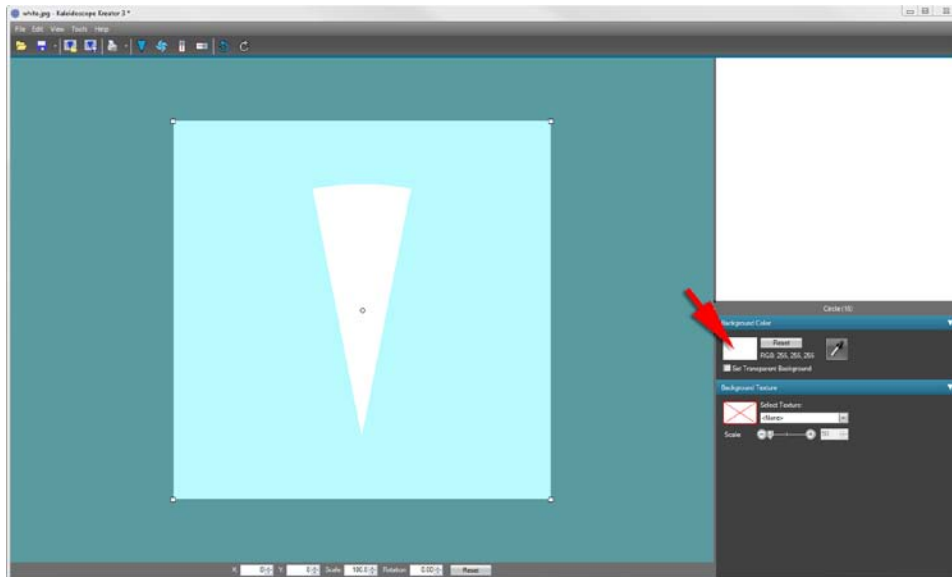
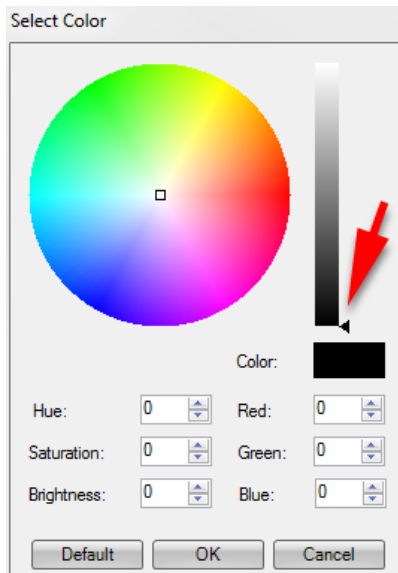

Figure 5
Figure 6
5. Choose black for a **Background Color**. Click on the white color swatch in the **Background Color** palette (Fig. 5) and choose black by sliding the right hand slider to the bottom. (Fig. 6) Click **OK**.